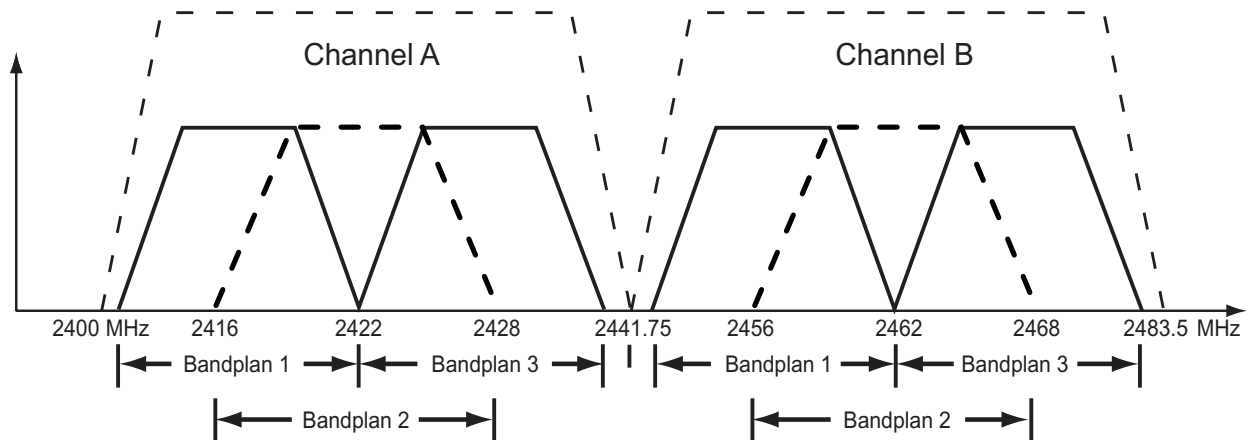
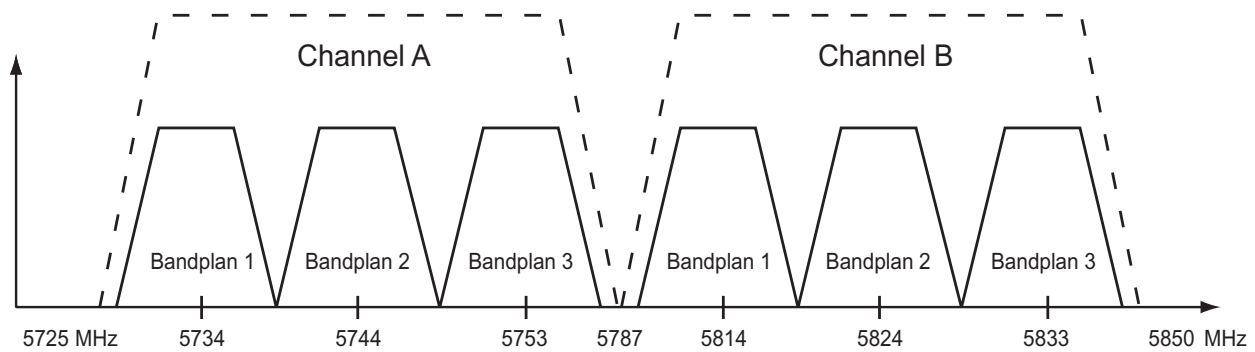

Figure 1. 2.4 GHz Bandwidth Division (TRACER 4106)
Figure 2. 5.8 GHz Bandwidth Division (TRACER 4206)
- Figure 1. 2.4 GHz Bandwidth Division (TRACER 4106) 35
- Figure 2. 5.8 GHz Bandwidth Division (TRACER 4206) 35
The FCC has allocated 83.5 MHz of spectrum in the 2.4 GHz band where the TRACER 4106 operates, and 125 MHz of spectrum in the 5.8 GHz band where the TRACER 4206 operates. **Figure 1** and **Figure 2** illustrate the bandwidth division.